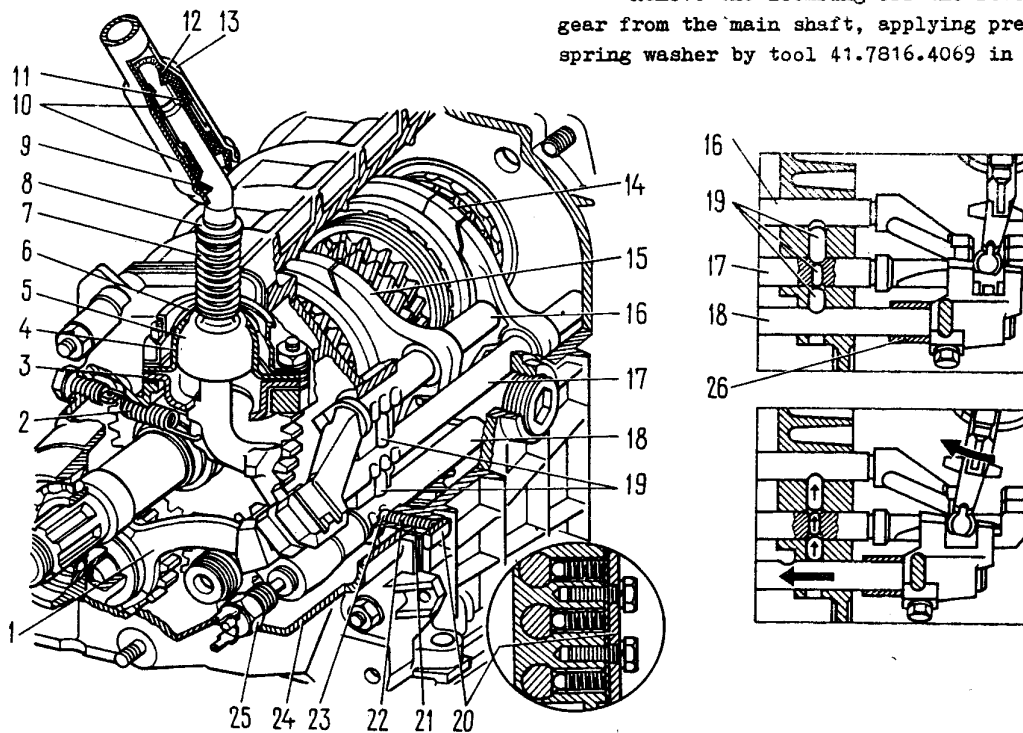

Fig. 3-22. Gearbox Control Mechanism:
Take off shift rail detent cover 20 (Fig. 3-22 complete with the gasket, remove reverse shift rail 18 and 3rd and 4th speed shift rail 17 from the gearbox housing. Unscrew the bolt of 1st and 2nd speed shift fork, take out the shift rail and
- spring 22 (Fig. 3-22) of the detent ball of the reverse shift rail differs from other springs in its resilience; it is pointed green or is cadmium-plated, and since 1985 - black oxidized;